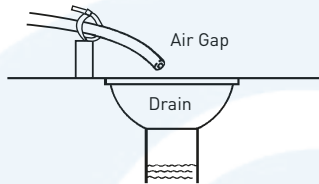

Figure 1 Air Gap
9. Place approximately 1" (25 mm) of water above the grid plate. If a grid is not utilized, fill to the top of the air check (Figure 1) in the salt tank. Do not add salt to the brine tank at this time.